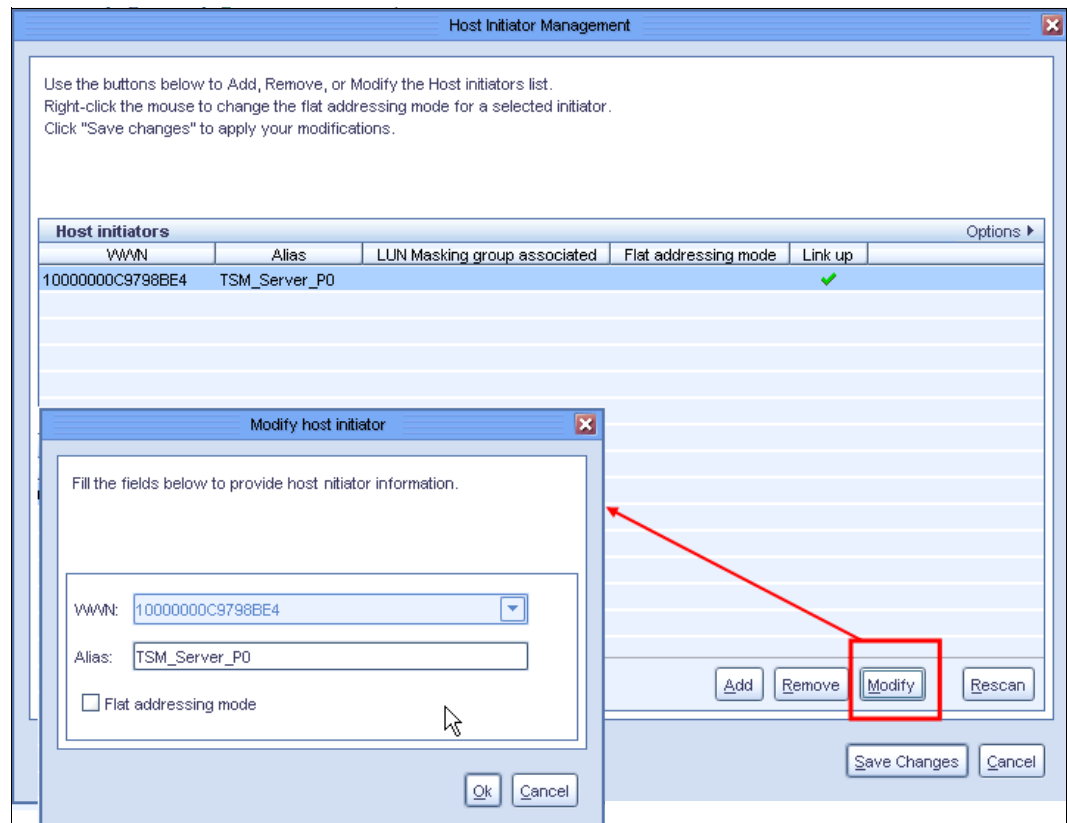

Figure 6-6 Modifying a host initiator alias
3. You can also assign an alias to the WWN by clicking **Modify** (Figure 6-6). Aliases help you more easily identify which host is related to the WWN. The ProtecTIER worldwide port names (WWNs) are found in the Host Initiator Management window.